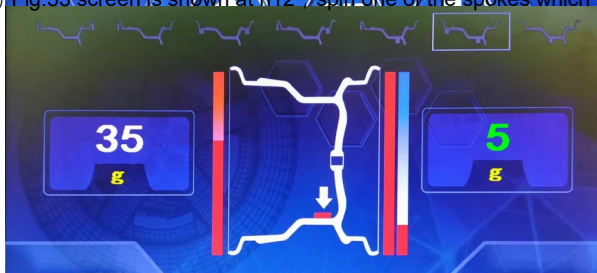

Fig.34
9) Fit the weight to the rim. (Fig.34)
3) Fig.33 screen is shown at h12 /spin one of the spokes which need to be balanced at h12, press button F 3,(Fig.34/35) is shown.
4) According to shown on fig.34/35 , find the two unbalanced pointes at outer side after splitted, apply suitable weights at different